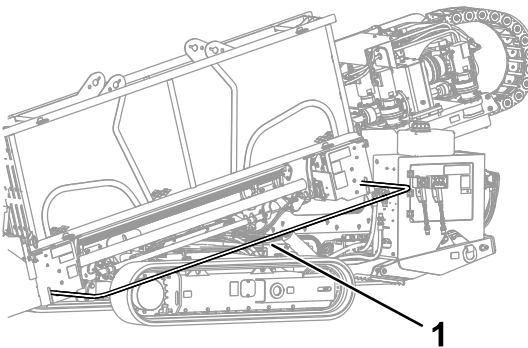

Figure 41
4. Lower the pedestrian safety bar and secure it in place (Figure 41).